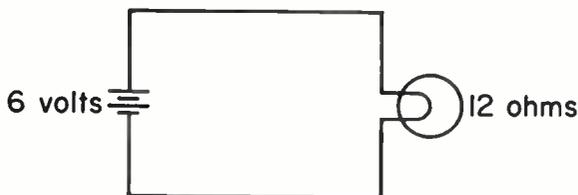

Fig. 1
8. The diagram of a simple lamp circuit is shown in Fig. 1. Current is .5 A.